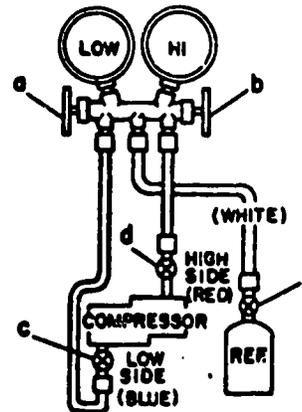

Fig 3-7.
**TO ADD VAPOR REFRIGERANT THROUGH SUCTION SERVICE VALVE** (refer to fig 3-7).